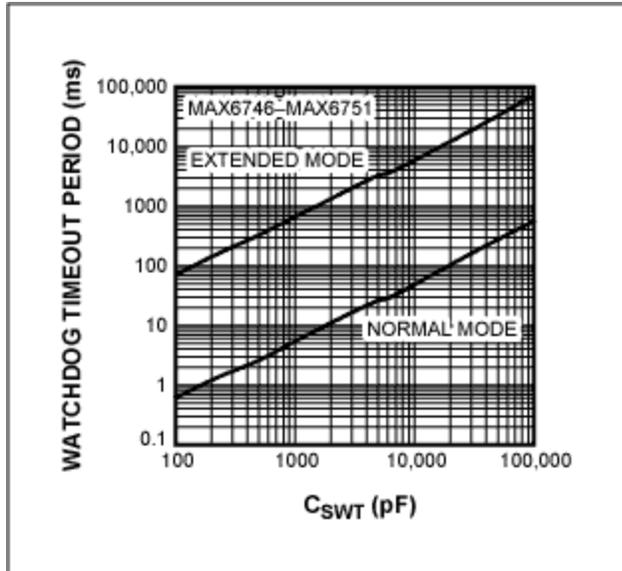

Figure 8. This figure shows the wide range of available watchdog timeouts.
**Figure 8** shows the watchdog-timeout range for  $C_{SWT}$  values from 100pF to 100nF. With this wide range of available watchdog timeouts, the designer has a solution for any application. The MAX6301-MAX6304 family has basically the same features as the MAX6746-MAX6753 family, but is available in SO and DIP packages.